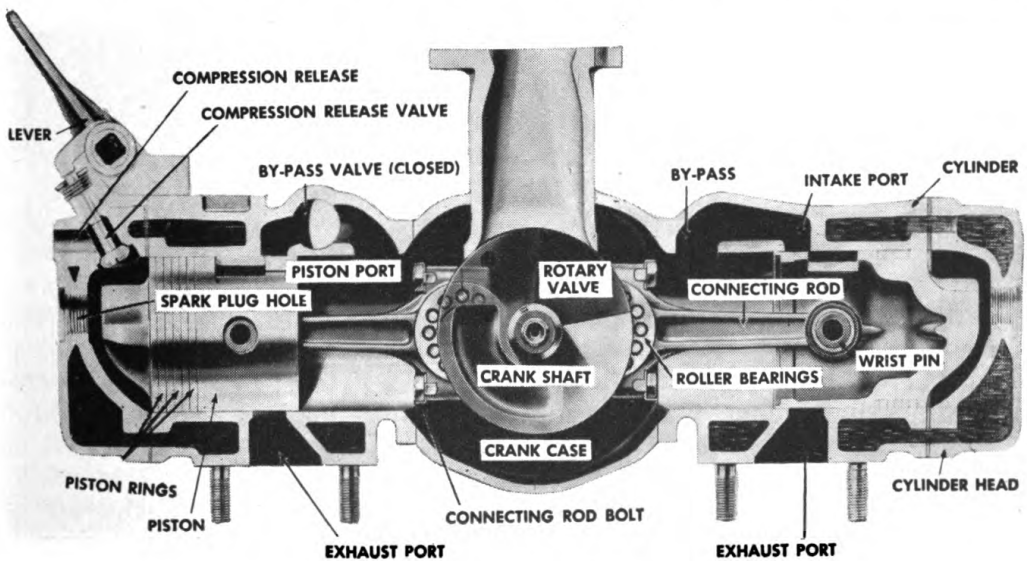

Figure 91. Compression release.
c. COMPRESSION RELEASE AND BYPASS VALVE. (1) To obtain easy cranking and starting a compression release and a bypass valve have been built into port cylinder (left, back to motor—see fig. 91).
(2) The compression release consists of a small valve installed in cylinder head and held closed by a spring, and operated at will by movement of compression-release lever. It relieves compression pressure and, when opened for starting purposes, reduces cranking effort, since starting is accomplished on but one cylinder.